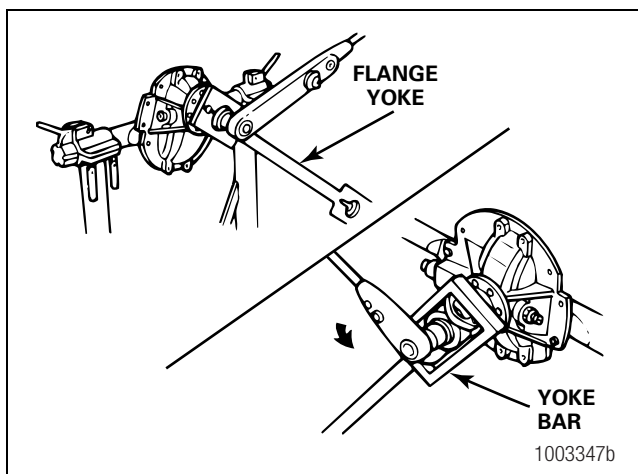

Figure 3.22
- Fasten a flange bar to the input yoke or flange. When the nut is removed, the bar will hold the drive pinion in position. Figure 3.22.
- Remove the nut and washer, if equipped, from the drive pinion. Figure 3.22.